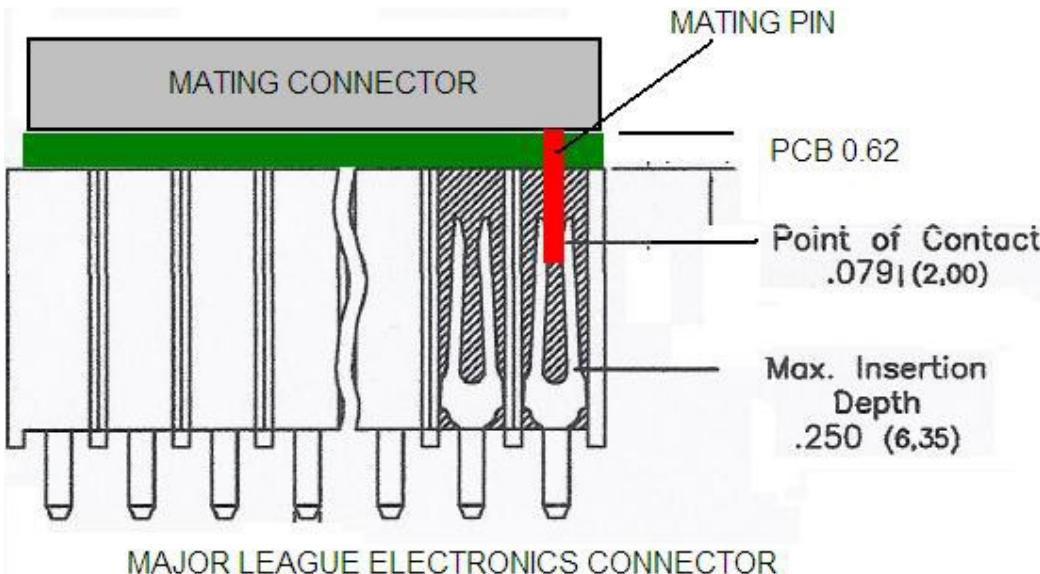

Figure 69      Connector Pin Insertion Depth
**Figure 69** shows the key measurements used in calculating how much the pin extends past the contact point on the connector, what we call overhang.